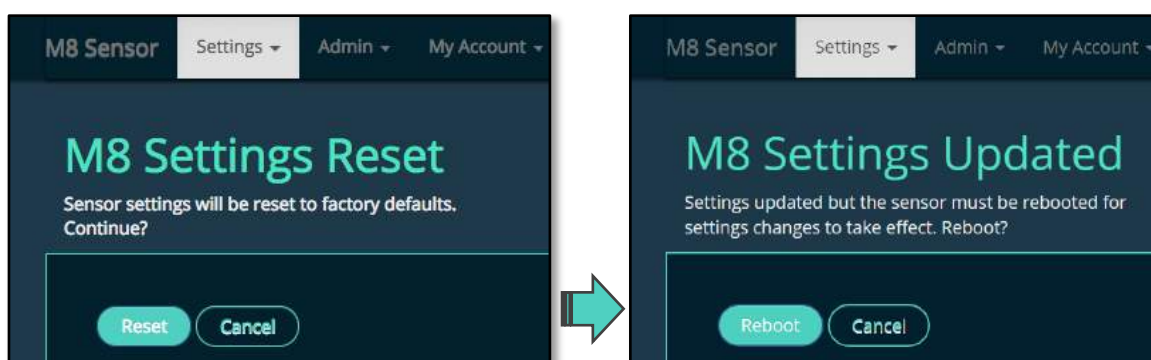

Figure 31. Web Server: Settings Tab's Reset Message (left), Reboot Message (right)
1. Select the Settings tab's *Reset Settings* item to open the *M8 Settings Reset* page (Figure 31).
2. A confirmation message immediately appears in the Settings tab: "Sensor settings will be reset to factory defaults. Continue?" (Figure 31 left).
3. If you select the *Reset* button, the settings are uploaded, and a Reboot confirmation page appears (Figure 31 right). (Settings are only applied if the sensor is rebooted.)